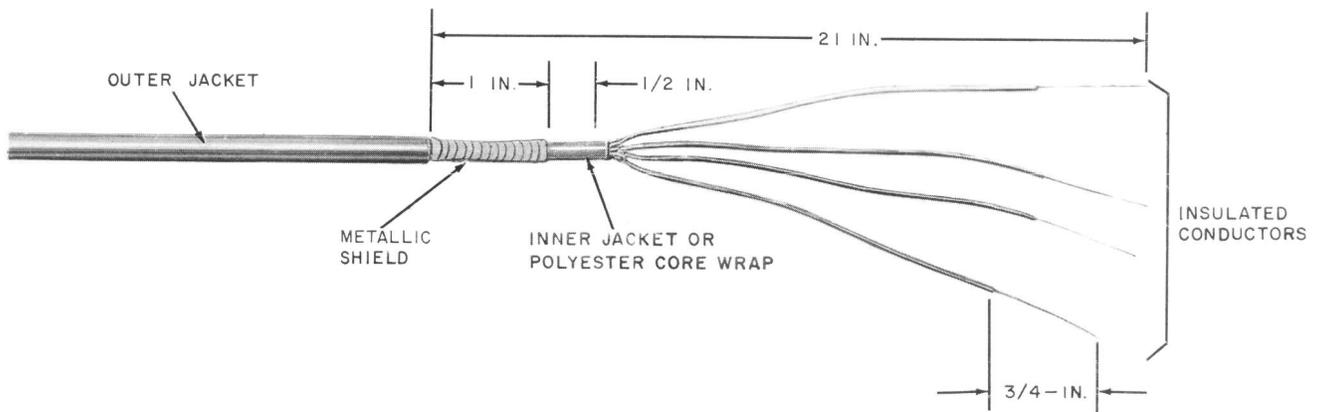

Fig. 22—Prepared Service Wire—E Cable Closure
7.04 Prepare service wire for E cable closure as illustrated in Fig. 22. The E retrofit kit is available for use with the E cable closure (see paragraph 8.01).